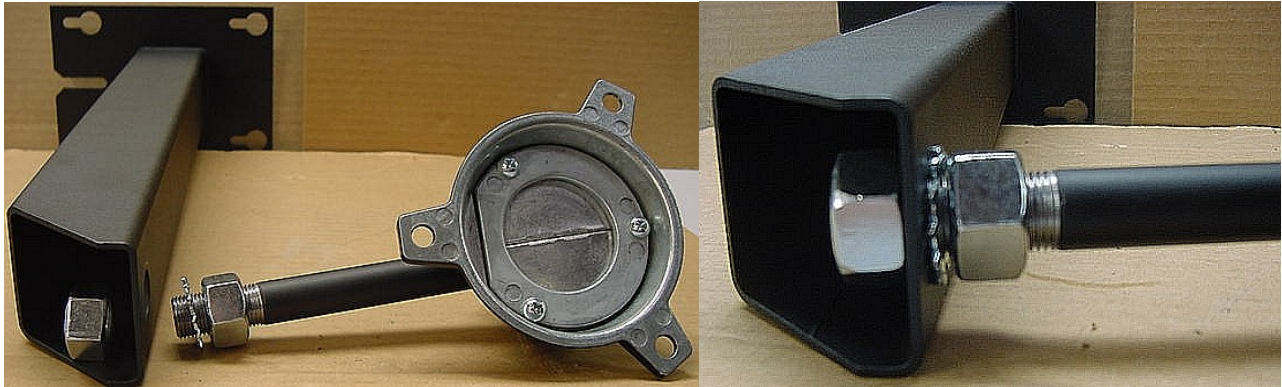

Figure 4. Before and after connecting arm to support bracket. (EMA shown not attached.)
- d. Using the hardware provided, connect the arm to the support bracket (Figure 4).